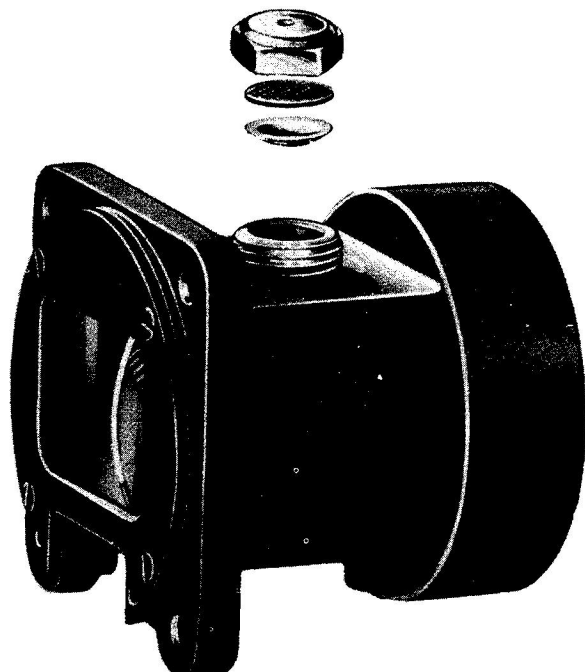

Figure 9 — Disassembly of Filler Cap
(4) Remove hexagon filler cap at top of compass (figure 8) and drain liquid. If the aluminum sealing cup sticks to the top of the filling boss, remove by inserting razor blade, or thin knife blade, between the disc and boss. (See figure 9.) Do not scratch top of boss. A new sealing cup will be necessary. If the cup sticks to the inside of the filler cap, remove with a suitable punch. (See figure 9.) Should the composition gasket inside the filler cap be damaged, remove it and replace.